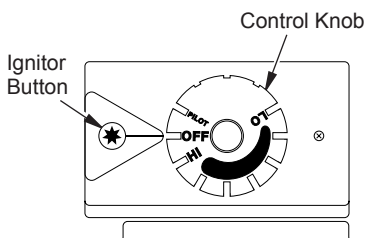

Figure 25 - Control Knob In the OFF Position
4. Wait five (5) minutes to clear out any gas. Then smell for gas, including near the floor. If you smell gas, STOP! Follow "B" in the safety information, column 1. If you don't smell gas, go to the next step.
5. Turn control knob counterclockwise ↺ to the PILOT position. Press in control knob for five (5) seconds (see Figure 25).